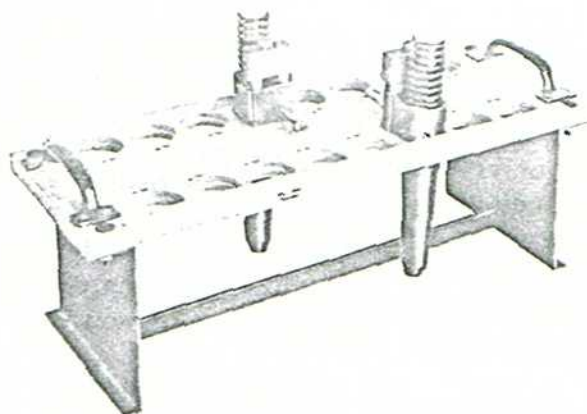

Fig. 24 - Injector Holding Rack
12. Apply the shipping block over the body stud to protect the open filter caps and place the completed injector in the injector storage rack #8159288, Fig. 24 in preparation for injector testing.
Upon completion of testing the injectors, they should be properly stored until withdrawn for assembly in an engine. The injectors may be stored in large covered compartments using holding racks #8159228, Fig. 24, which accommodate 16 injectors. The racks may also be placed in individual storage boxes. Details of construction of these storage boxes are given in file print #207, which is available upon request. The injector holding racks are recommended since they hold the injectors in an upright position.